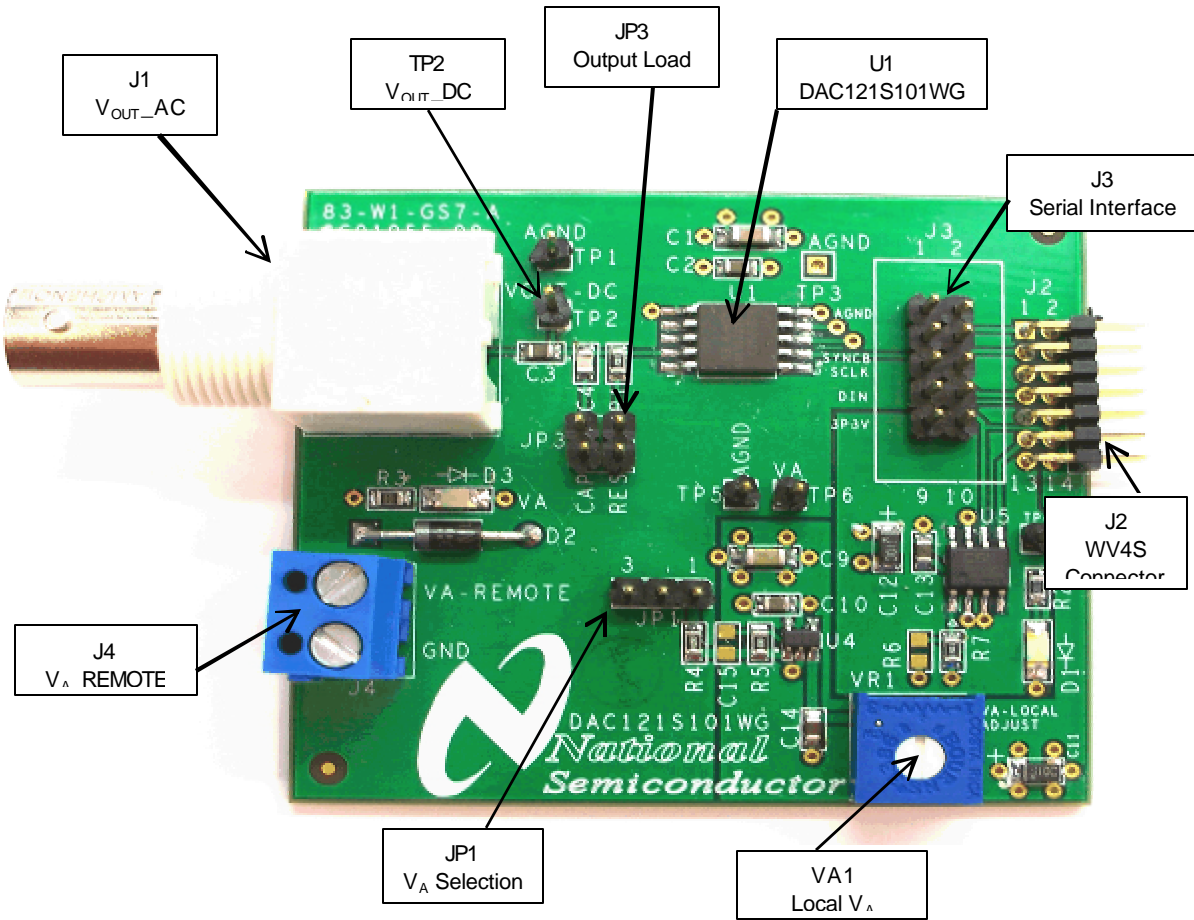
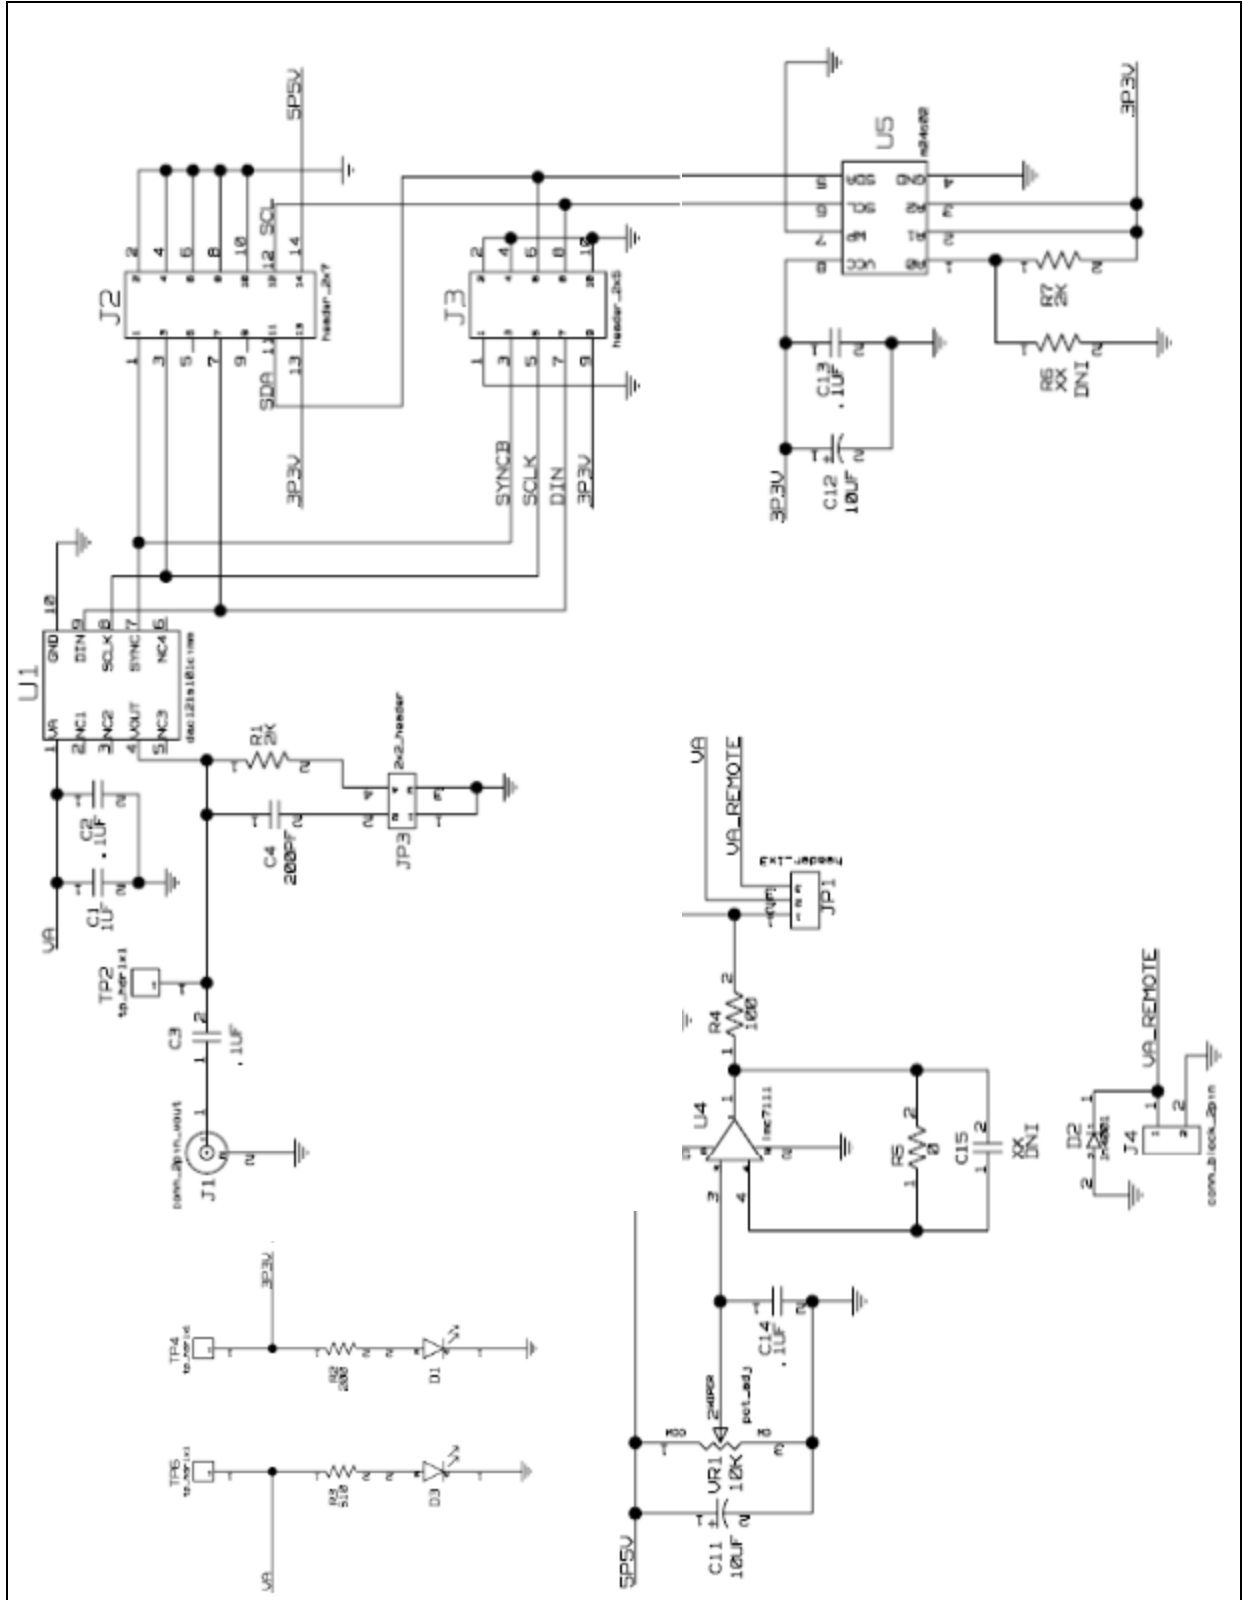

Figure 1: Component and Test Point Locations
Figure 4: DAC12S101WG Evaluation Board Schematic
The DAC121S101WG evaluation board comes fully assembled and ready for use. Refer to the Bill of Materials for a description of components, to *Figure 1* for major component placement, and to *Figure 4* for the Evaluation Board schematic.
Refer to *Figure 1* for locations of test points and major components.
4. The Analog Output signal can be seen DC coupled at TP2, or AC coupled at BNC connector J1. See the board schematic of *Figure 4* for details.
Table 1 describes the function of the various jumpers on the DAC121S101WG evaluation board. The Evaluation Board schematic is shown in *Figure 4*.